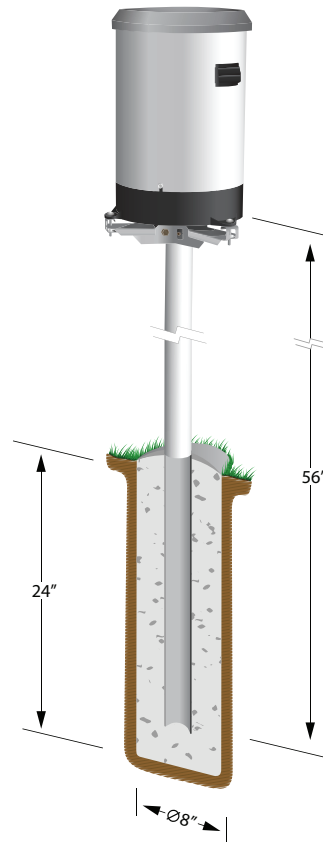

FIGURE 4.11-1. TB4 or TB4MM Mounted onto a CM310 Pole via the CM240 Mount
1. Mount the rain gage to either the CM240 (Figure 4.11-1) or a user supplied bracket. Remove the rain gage funnel from the base by removing the three screws and lifting upward. Adjust the three nuts on the CM240 bracket to level the rain gage. On user supplied brackets, shims or washers can be used to level the rain gage. A bubble level is mounted on the TB4, TB4MM, or CS700 base to facilitate leveling.